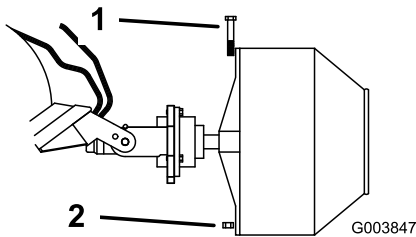

**Figure 2**
4. Maneuver the drive shaft into the collar on the back of the bowl (Figure 2).